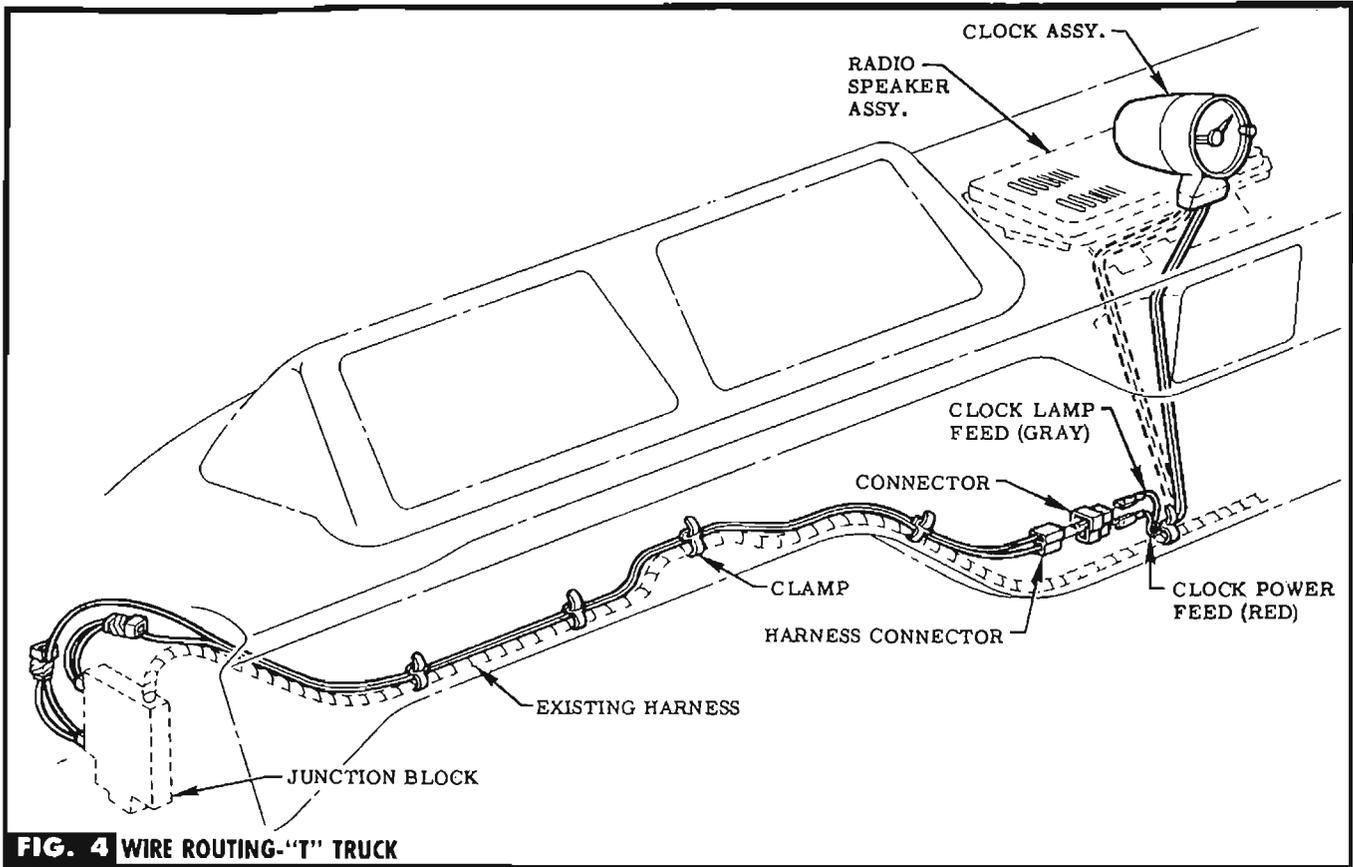

FIG. 4 WIRE ROUTING-"T" TRUCK
STEP 4 INSTALL CONNECTORS ON TERMINALS. ATTACH CLOCK WIRES TO EXISTING HARNESS WITH CLAMP PROVIDED. SEE FIG. 4, 5 OR 6. **NOTE** If radio exists, install speaker & route lamp wires over edge of speaker.
WIRING HARNESS TOGETHER & ROUTE CLOCK WIRING HARNESS TO JUNCTION BLOCK, ATTACHING WITH CLAMPS PROVIDED. SEE FIG. 4, 5 OR 6.
STEP 3 DISSASSEMBLE BRACKET ASM. & DISCARD ALL BUT BRACKET. SEE FIG. 2, OR FIG. 4.